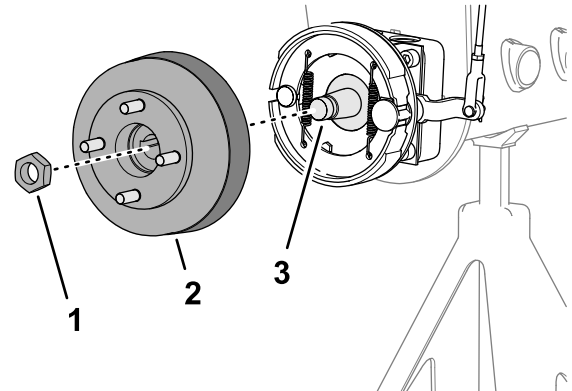
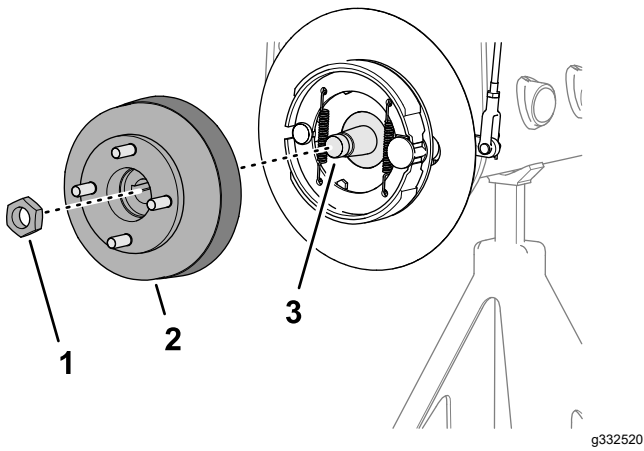

Figure 70
Figure 71
- Assemble the wheel hub and brake drum onto the wheel-motor shaft (Figure 70 or Figure 71).
4. Secure the wheel hub to the shaft with the locknut (Figure 70 or Figure 71), and tighten by hand.